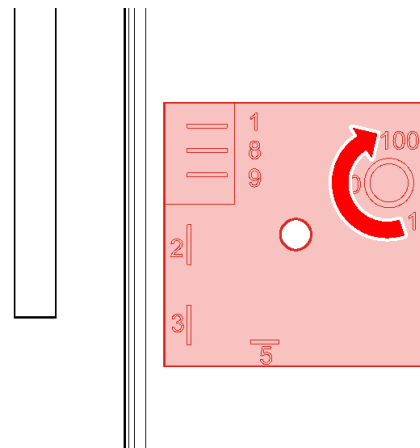

Fig. 37
3. Turn timer delay control knob until arrow on knob is pointed towards "100" label on timer (Fig. 37).